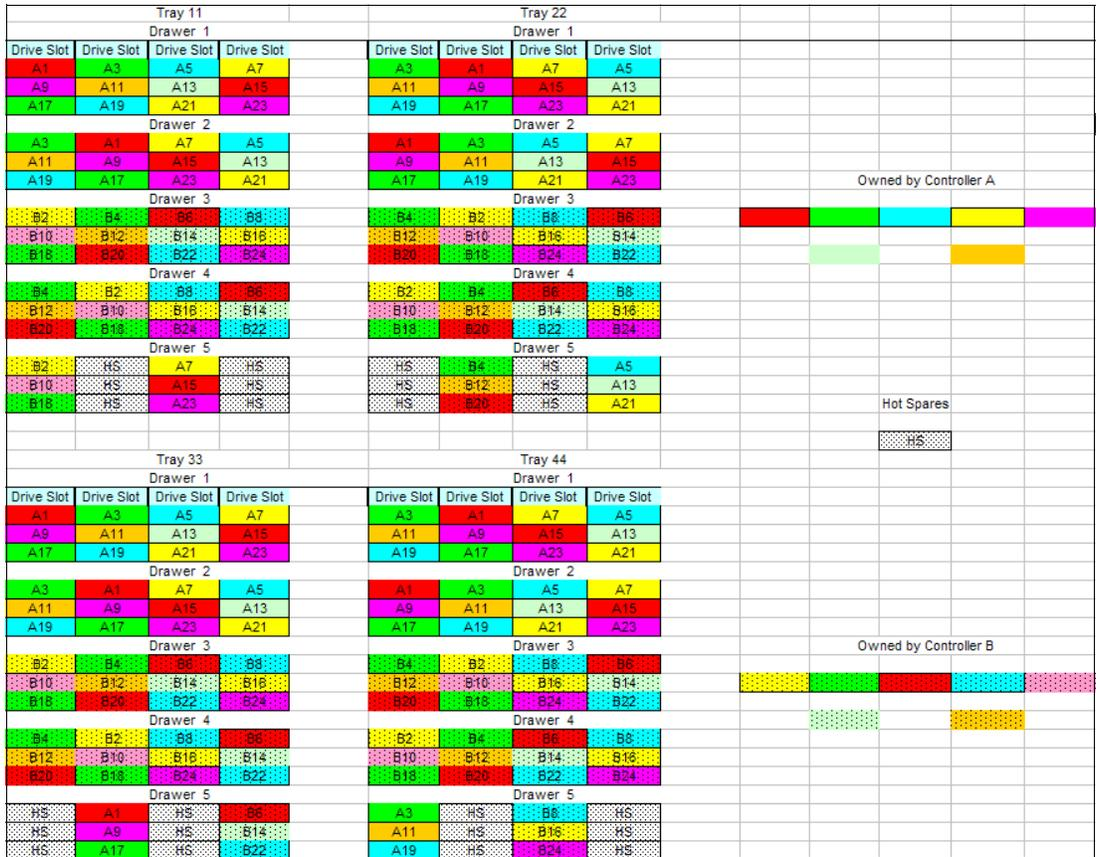

Figure 6-9 Trunked EXP5060 configured with 8 + P arrays with drawer protection
When configuring the EXP5060 in a trunked configuration for maximum throughput, avoid sharing the drive drawers between controllers whenever possible. Create arrays and LUNs by using the disks from two drawers for arrays and LUNs to be owned by controller A, and two other drawers to be owned by controller B. Then, you can use the fifth drawer for hot spares. If all 60 drives are needed, limit the drives using the fifth drawer to only arrays that are built to be used by only one controller to prevent the effect of shared DCMs. Figure 6-9 shows a full four EXP5060 configuration that is built with 8 + P RAID5 or 7 + P + Q RAID6.
2. Dedicate two drawers, drawers 1 and 2 in the example in Figure 6-9, from all of the expansion trays to build arrays and LUNs that are owned by Controller A.
3. Dedicate two other drawers, drawers 3 and 4 in the example in Figure 6-9 on page 290, from all of the expansion trays to build arrays and LUNs that are owned by Controller B.
4. When using the fifth drawer, build separate array groups (A21, A23, B22, and B24 in the example in Figure 6-9 on page 290) that are split equally between Controller A and B. This design allows the shared DCM to have minimal effect and still spreads the workload as evenly as possible across all of the drive channels.